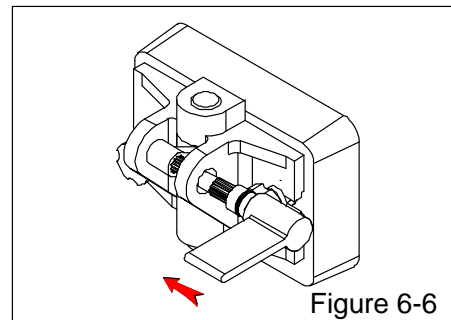

Figure 6-6
Step 5 Install the draw valve handle (Figure 6-6).